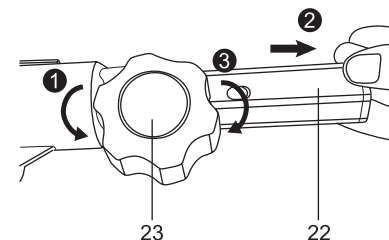

Fig. 2
3. Loosen the locking knob (23) by turning it anticlockwise, pull the pole extension (22) out. Caution as pole may retract quickly. Afterwards tighten the locking knob (23) by turning it clockwise. (Fig. 2)